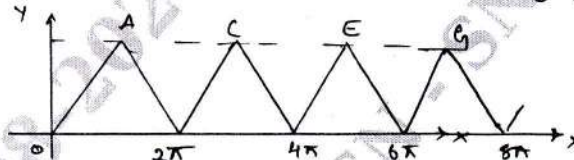

Fig.Q.1(b)
b. Find the Fourier series for the saw tooth curve as shown in the Fig.Q.1(b). (12 Marks)